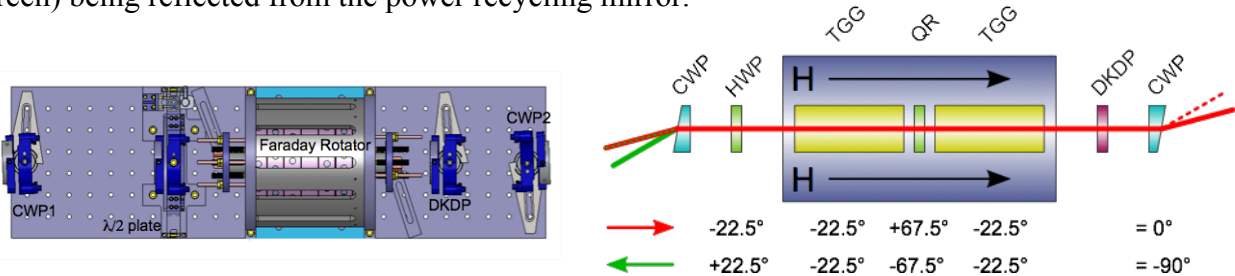

Figure 1: The left shows a drawing of the final assembly and the right a schematic of the FI
The Faraday isolator (FI) is located between the input mode cleaner and the power recycling mirror inside the HAM2 table. Its location and the beam routing inside HAM 2 are described in T1300021. The FI separates the beam going into the interferometer (red in Figure 1) from the beam (green) being reflected from the power recycling mirror.